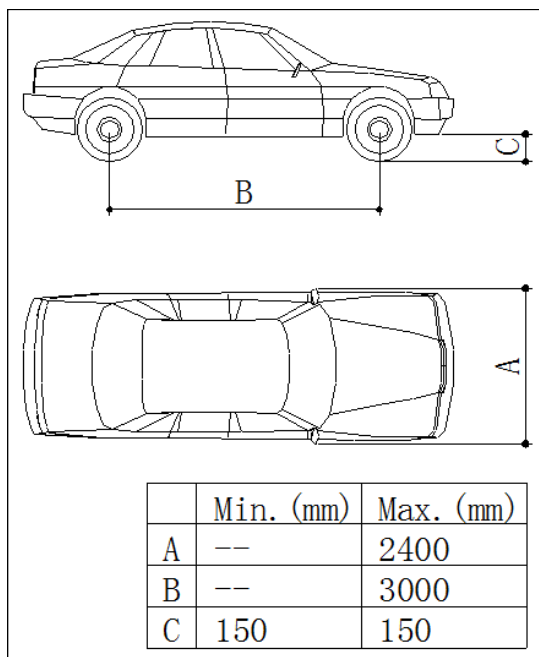
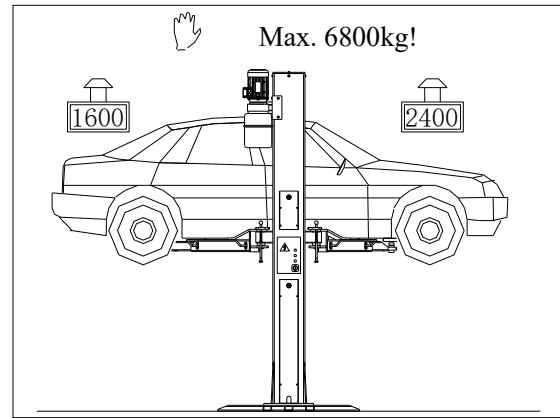

Fig. 8
Fig. 9 Weight Distribution
During lift and descent movements, the operator must remain in the command station as defined in figure 8. The presence of persons inside the danger zone indicated in the same figure is strictly prohibited. The presence of persons beneath the vehicle during operations is permitted only when the vehicle is parked in the elevated position.
- ◆ Only authorized vehicle **(Fig. 8 & Fig. 9)** are raised without exceeding the rate capacity and overall dimensions.